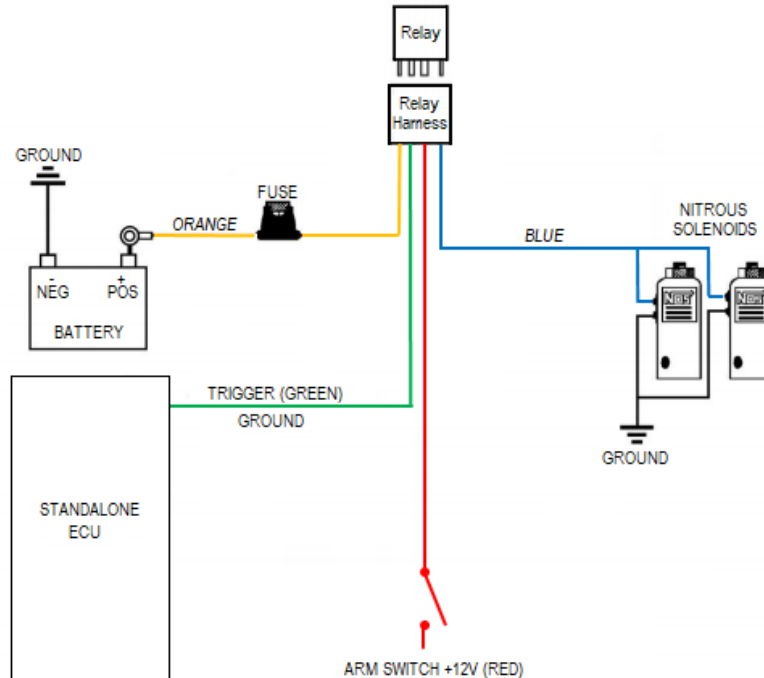

Figure 6 – Relay Wiring
****Progressive Wiring** – A regular switching relay should never be used for progressive nitrous operation (other than for supplying constant power, it should never be "pulsed"). **Figure 6** shows the proper wiring for a single stage non-progressive system. For additional stages, additional driver modules are required. **Note: PN 15620NOS MUST be used for a progressive nitrous system.**